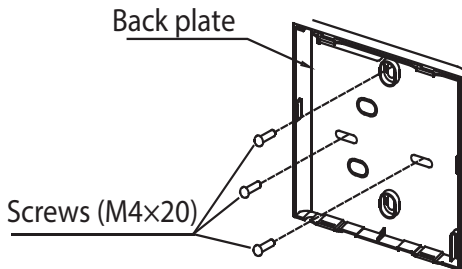

Fig. 6 – Fasten Back Plate
1. For surface mounting, fasten the back plate on the wall with the 3 screws (M4x20) and plugs (see Fig. 6).